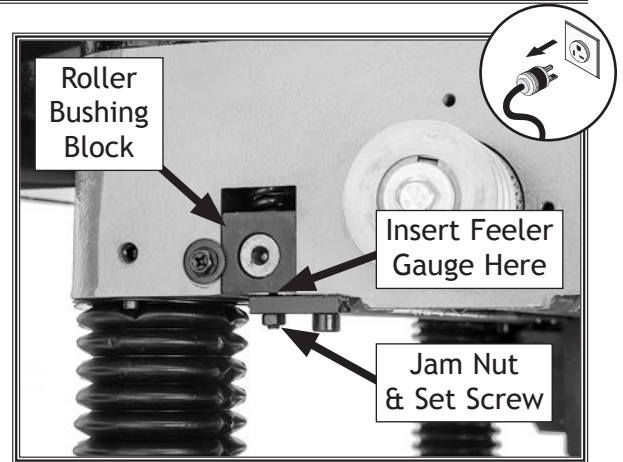

Figure 51. Example of feeler gauge location for adjusting infeed roller height when using wood blocks (one of two locations shown).
10. Loosen jam nuts and set screws on each side of infeed roller (see **Figure 51**).
11. Using a feeler gauge, adjust set screw so it is 0.040" from roller bushing block (see **Figure 51**), then tighten jam nut. Repeat on other side of infeed roller.